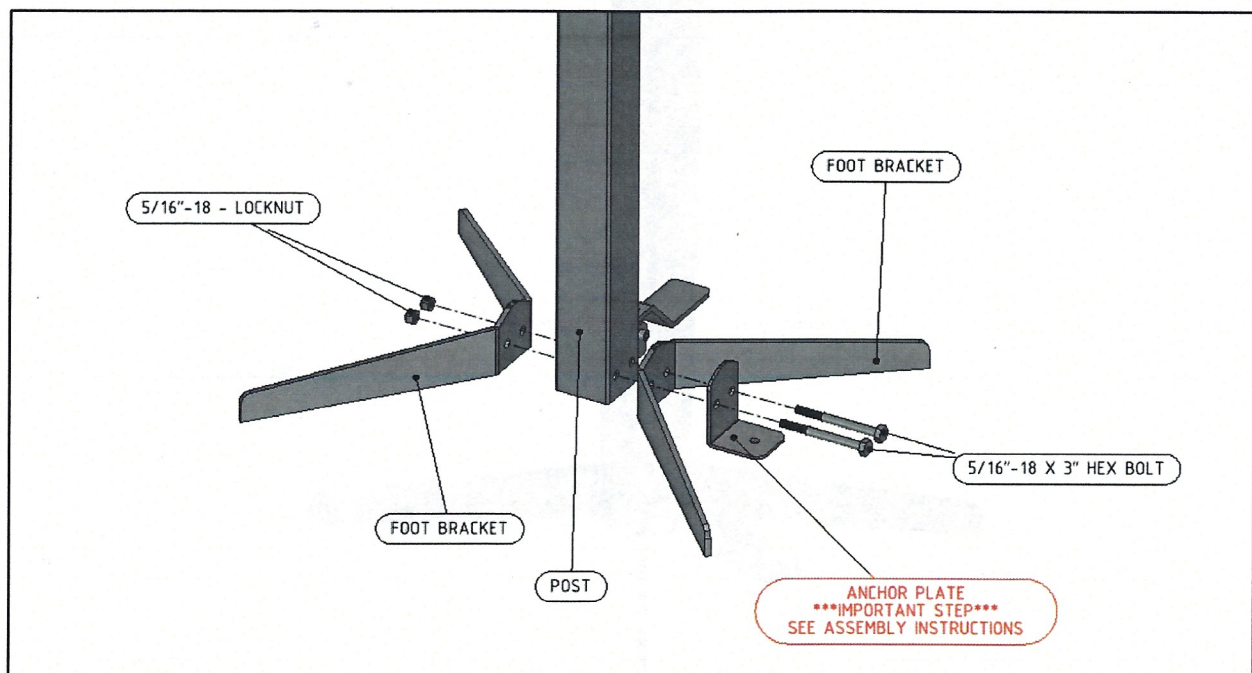

Figure 1
**STEP 1: BASE ASSEMBLY – ATTACH FOOT BRACKETS (2) AND ANCHOR PLATE (1) ON BOTTOM OF POST (1) WITH 5/16"-18 X 3" BOLTS (2) AND 5/16"-18 NYLON LOCKNUTS (2). TIGHTEN NUTS SEE FIGURE 1 BELOW**